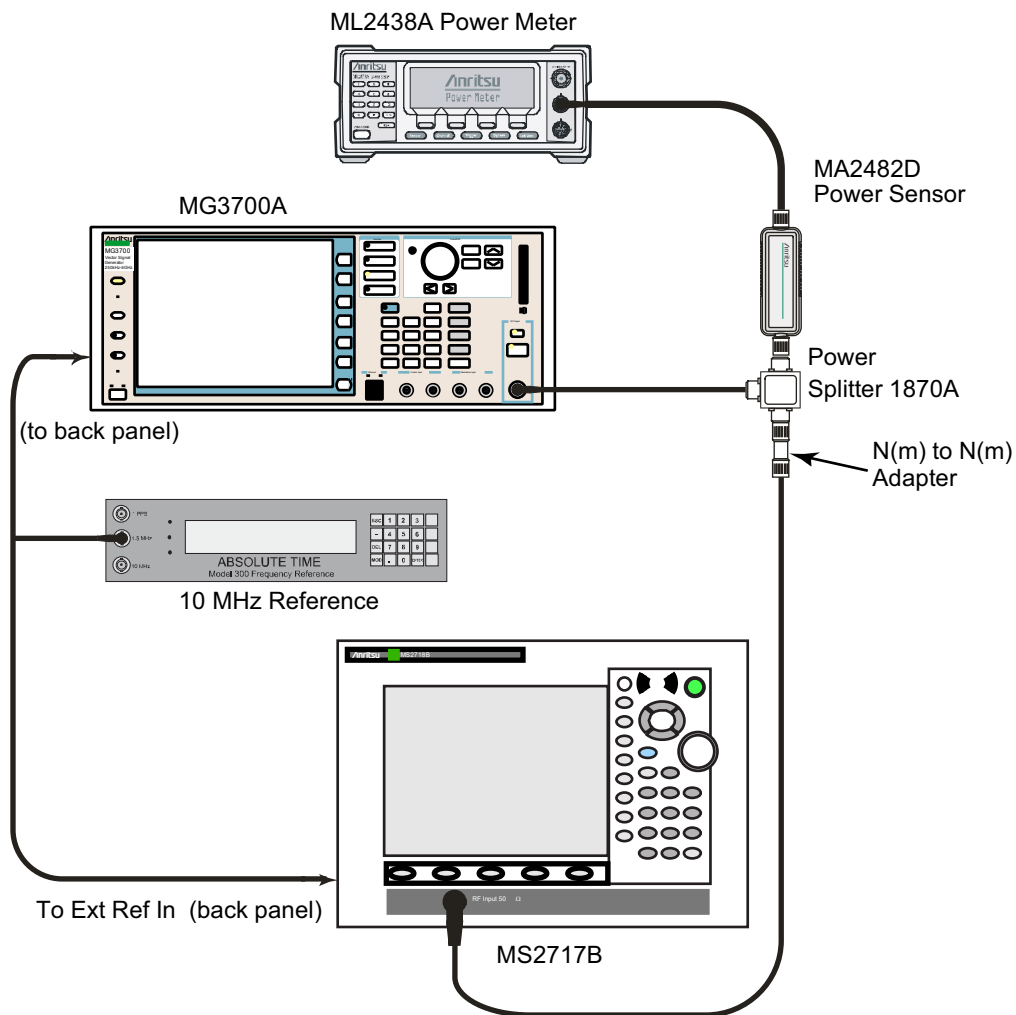

Figure 3-1. GSM/EDGE Signal Analyzer Option Verification
2. Connect the equipment as shown in Figure 3-1.
4. Set the MS2717B mode to GSM/GPRS/EDGE Signal Analyzer. Press **Shift** and press **Preset** (1) to preset the MS2717B.
1. Ensure that the equipment settings are unchanged from the previous test. Refer to Figure 3-1 on page 3-3.